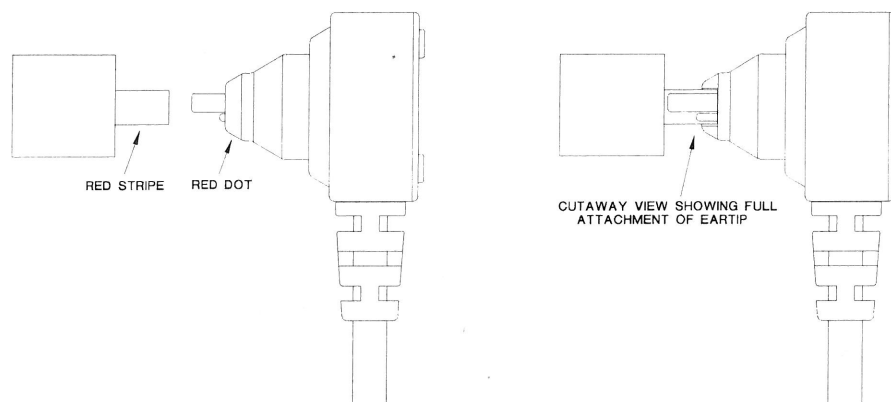

Figure 2. Proper Eartip Attachment
2. Attach an eartip on the front of the probe as shown in Fig. 2. The red line on the eartip tubing should be lined up with the red dot on the probe. The eartip should then be firmly pushed onto the tubes until the eartip tube is in the recessed area on the probe. When using the foam eartips the foam should be rolled between the fingers into the smallest diameter possible before attaching it to the probe.
- B. Replace the eartip. Be sure that it is attached to the probe as in Fig. 2.